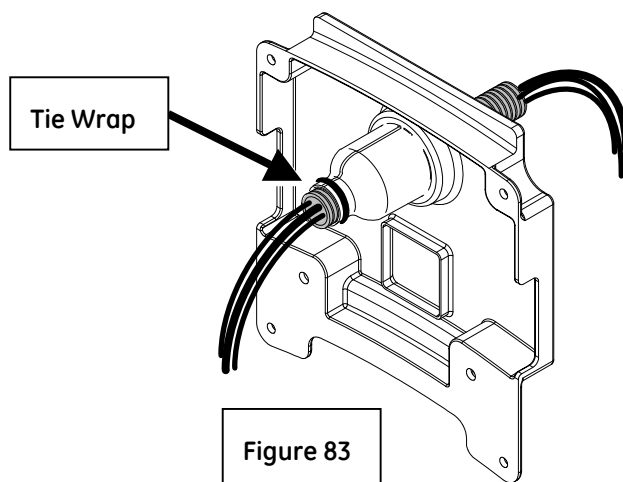

Figure 83
- J. Pass connectors and tubing of the Scan Room Monitor Control cable (5149629) thru the Monitor Interface Cover **(Fig 83)**. Fasten together with tie-wrap to secure the cable assembly to the interface cover. Trim excess from tie-wrap